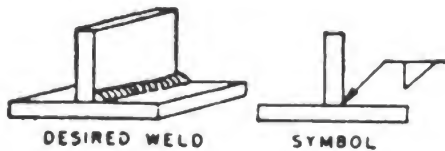

Figure 14-9.—Continuous fillet weld.
2. The length of a fillet is shown to the right of the weld symbol. If the weld extends the full length of a piece, no length dimension may be shown. (See figure 14-9, 14-10.)